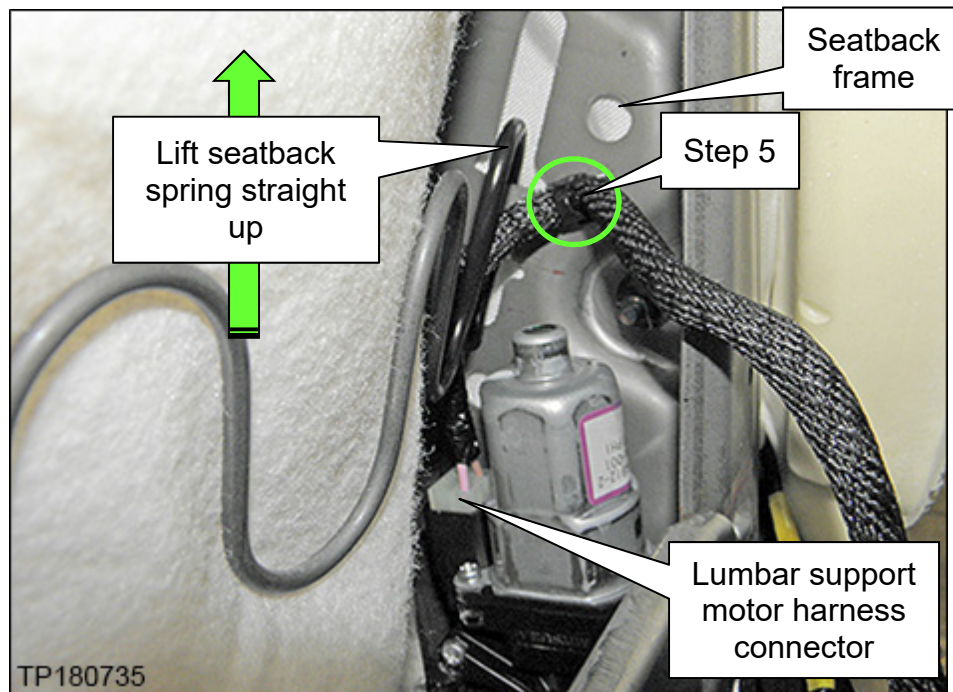

Figure 2
4. Unhook the seatback spring (Figure 2) from the right side of the seatback frame.